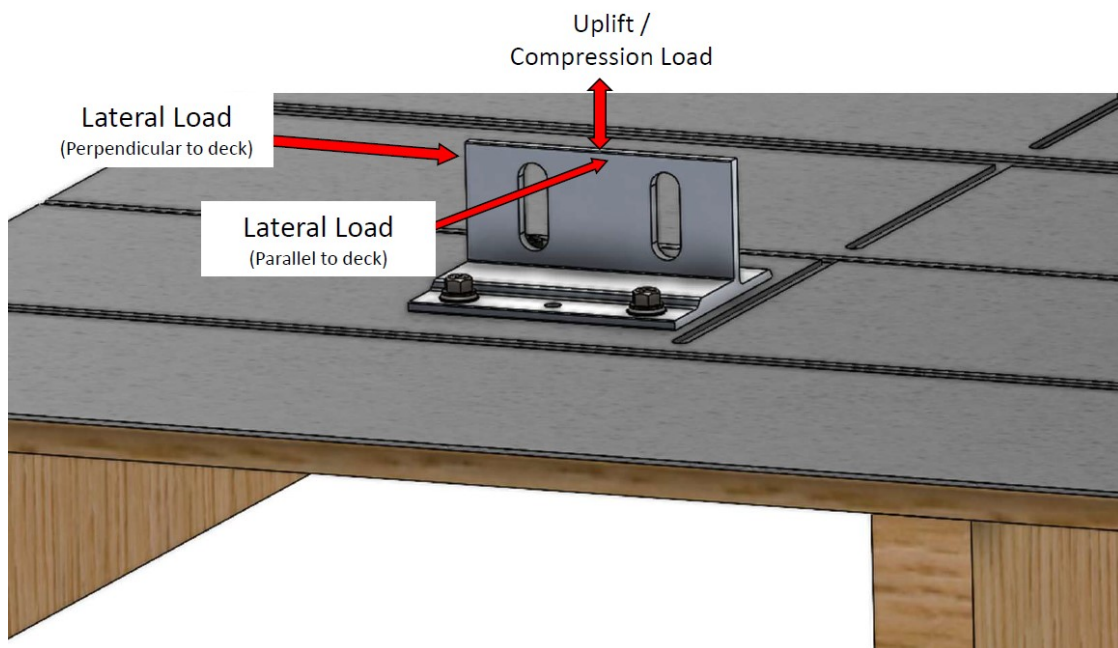

Figure 1.1: Splice Foot X: Force Loading Diagram (deck)
1. Figure 1.1: Splice Foot X – Force loading diagram (deck)
1. Determined using NDS Eq. 12.2-2 with full thread engagement through 7/16" OSB. Includes 1.6 Cd for wind loads. Additional load duration factors may not be applied. 2. Allowable lateral load assumes worst case loading at top of slots. Additional load duration factors may not be applied. 3. Reference Figure 1.1 for load direction and application. 4. The effect of bolt slippage has not been evaluated.
1. Determined using NDS Eq. 12.2-2 with full thread engagement through 7/16" OSB. Includes 1.6 Cd for wind loads. Additional load duration factors may not be applied. 2. Allowable lateral load assumes worst case maximum height above roof deck. Additional load duration factors may not be applied. 3. Reference Figure 1.1 for load direction and application. 4. The effect of bolt slippage has not been evaluated.